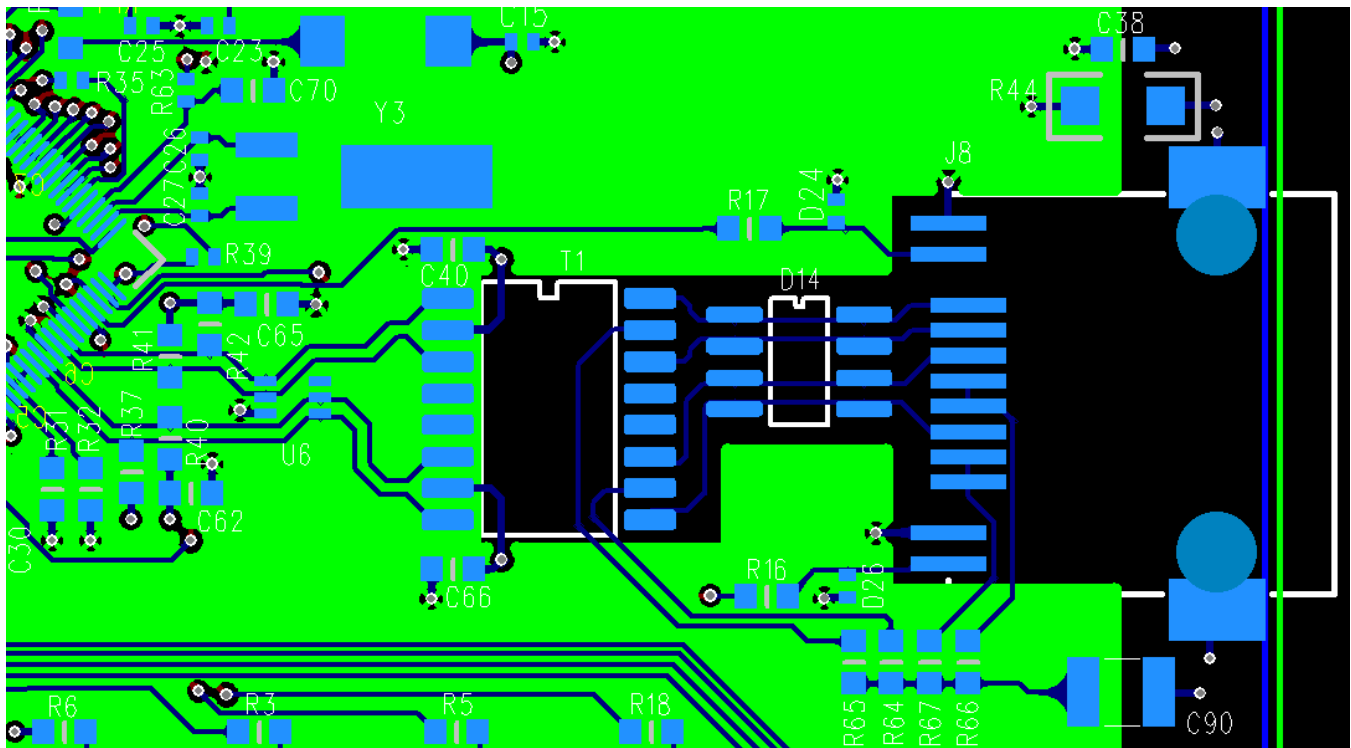

Figure 32. Ethernet PHY PCB Layout
Good PCB layout and routing practices are important to ensure reliable Ethernet signaling, as shown in the example in Figure 32.
- Place 0.1- μ F capacitors close to the Ethernet transformer (see C40 and C66 in Figure 32).
- Do not extend the ground plane under the signals from the transformer to the connector (see the lack of a ground plane under T1, D14, and J8 in Figure 32).